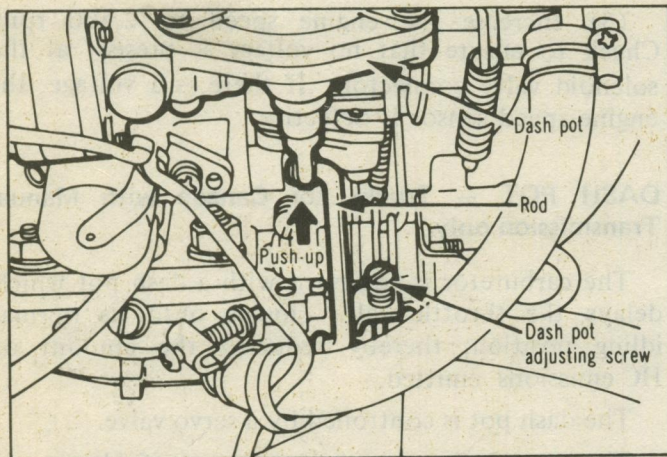

Fig. 23 Dash Pot Adjustment
(1) Push the dash pot rod up through its entire stroke (until it comes to a stop) as shown in Fig. 23.
(2) When the bi-metal senses the temperature inside air cleaner of above about  $45^{\circ}\text{C}$  ( $113^{\circ}\text{F}$ ), the air bleed valve is fully opened. As a result, the intake air to the carburetor comes directly through the fresh air duct, since the air control valve is positioned at (B), as shown in Fig. 23, regardless of the intake manifold vacuum.
(3) At intermediate temperature, the air entering the carburetor is a blend of fresh air and pre-heated air as regulated by the thermostatically actuated air control valve.